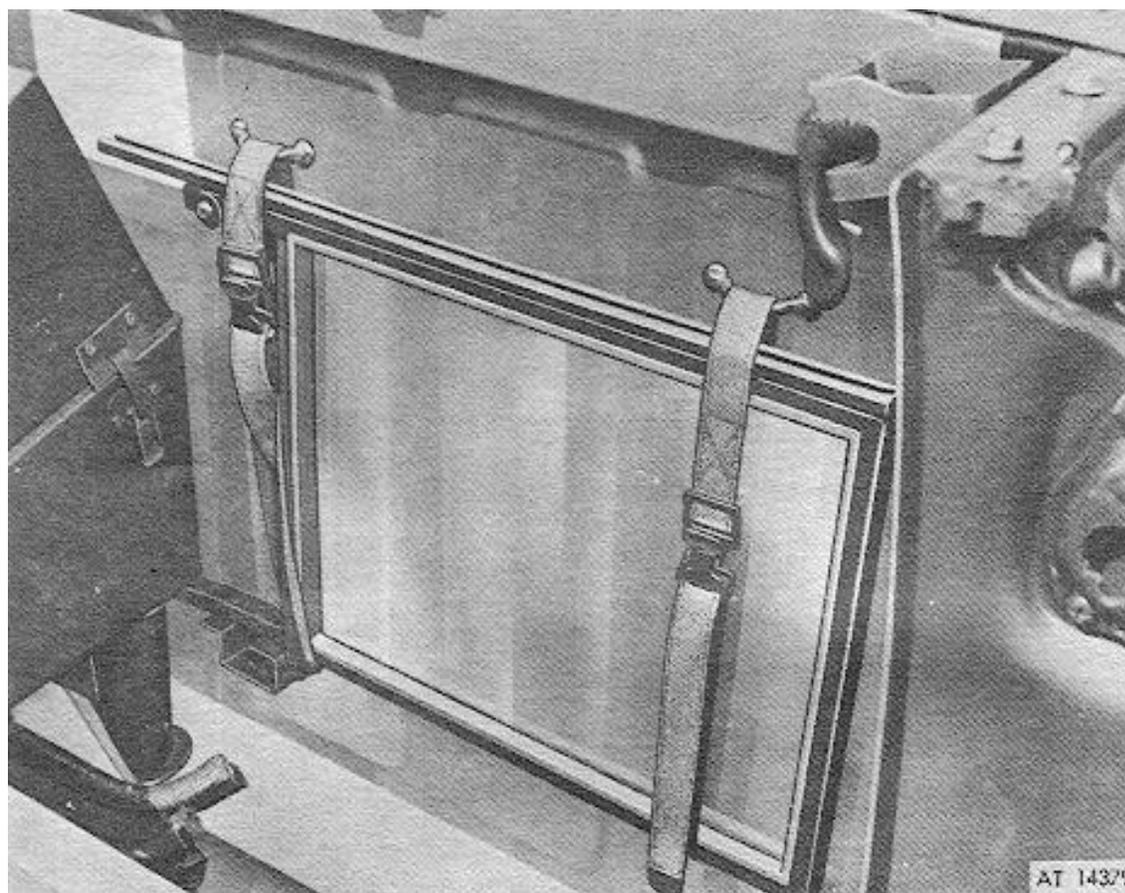

Figure 18, Right fixed window, frames and cab bows stowed
7. Stow both door window frames under battery box and behind commander's seat with one 1" x 28" strap. See figure 18.
9. Stow right door fixed window glass behind commander's seat with one 1" x 42" strap. See figure 18.
11. Secure bows behind driver's seat with one 1" x 22" strap. See figure 18.